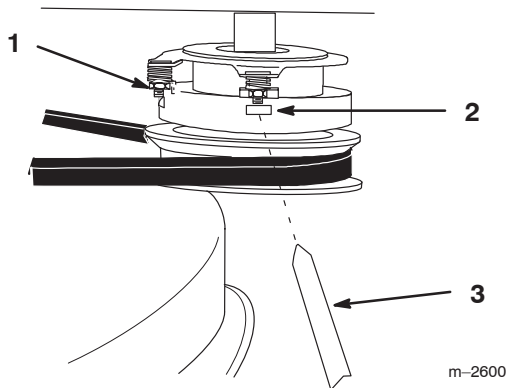

Figure 34
1. To adjust clutch, tighten or loosen lock nuts on flange studs (Figure 34).
2. Check adjustment by inserting feeler gauge through slots next to studs (Figure 34).